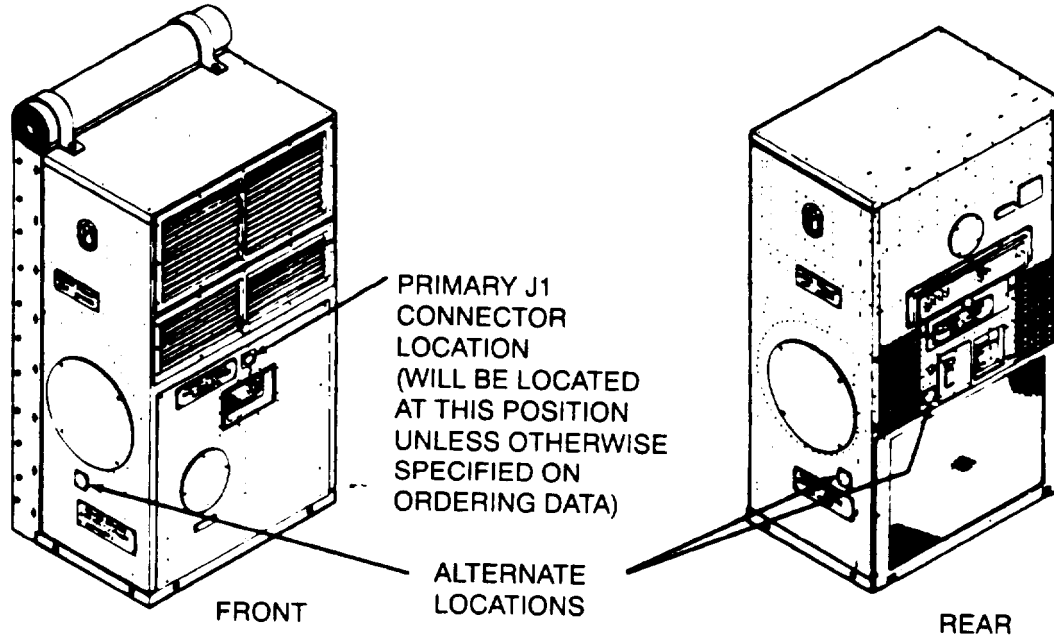

Figure 4-15. Alternate Input Power Cable Connector (J1) Locations
- b. See Figure 4-15 for alternate input power cable connection (J1 ) locations.